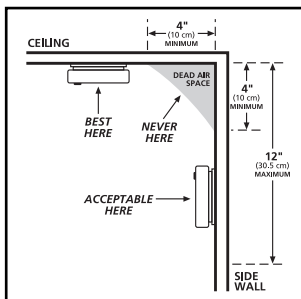

FIGURE 1
- When mounting an alarm on the ceiling, locate it at a minimum of 4" (10cm) from the side wall (see figure 1).
- When mounting the alarm on the wall, use an inside wall with the top edge of the alarm at a minimum of 4" (10cm) and a maximum of 12" (30.5cm) below the ceiling. (see figure 1).
Modern mobile homes have been designed and built to be energy efficient. Install smoke alarms as recommended above (refer to RECOMMENDED LOCATIONS and Figures 1 and 2).
In older mobile homes that are not well insulated compared to present standards, extreme heat or cold can be transferred from the outside to the inside through poorly insulated walls and roof. This may create a thermal barrier which can prevent the smoke from reaching an alarm mounted on the ceiling. In such units, install the smoke alarm on an inside wall with the top edge of the alarm at a minimum of 4" (10cm) and a maximum of 12" (30.5cm) below the ceiling (see figure 1).